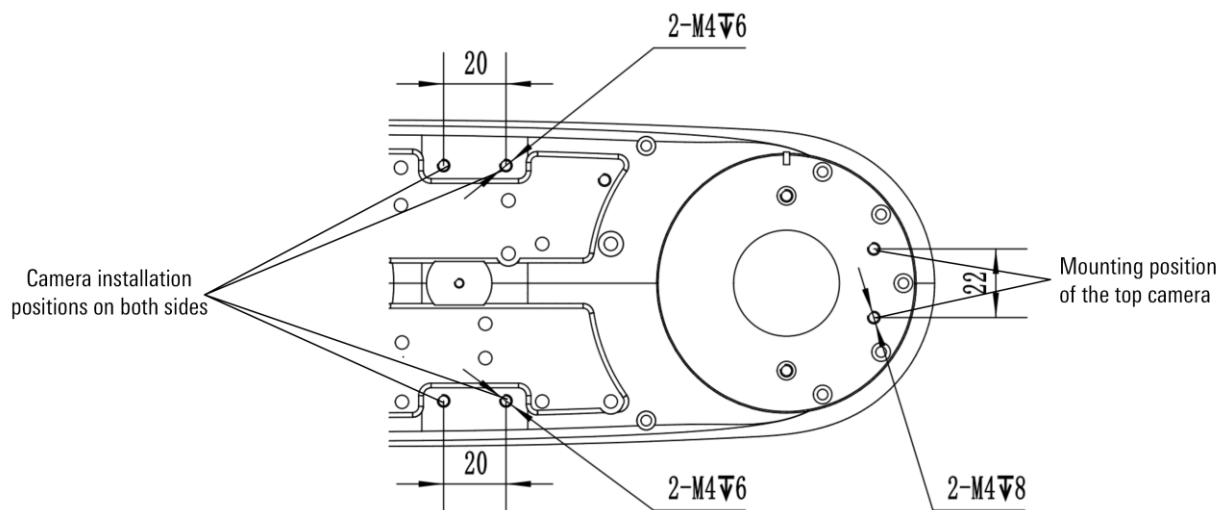

Figure 5-10 Schematic diagram of the camera installation position of the AIR3SC-400A arm
When installed on both sides of the forearm (shown in Figure 5-10)  $WM = M (L1)^2 / (L1+L2)^2$
When installed at the top of the forearm (shown in Figure 5-10):  $WM = M (LM)^2 / (L2)^2$
LM:The distance from the center of rotation of the J2 axis (shown in Figure 5-10) to the center of gravity of the camera, etc.
The manipulator has a camera mounting position on the forearm, and the mounting hole specifications and dimensions are shown in Figure 5-10.